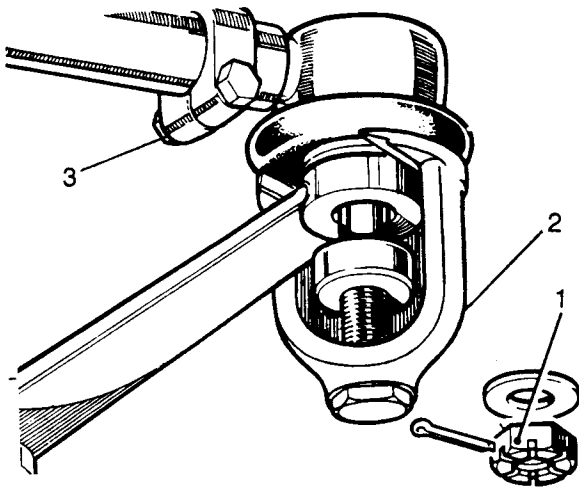

Fig L4.22
- (3) Refer to Fig L4.22. Remove both ball joint fixings (1).
- (4) Extract the ball joints, using special tool 601763 (2).
- (5) Withdraw the drag link.